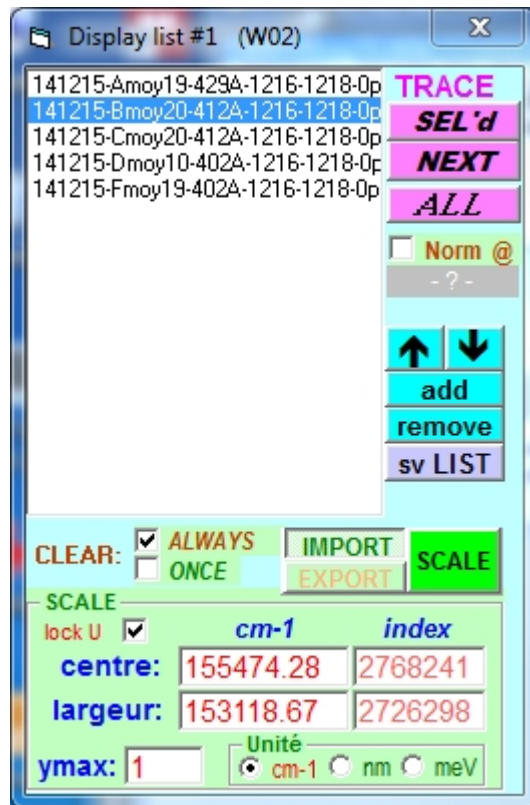
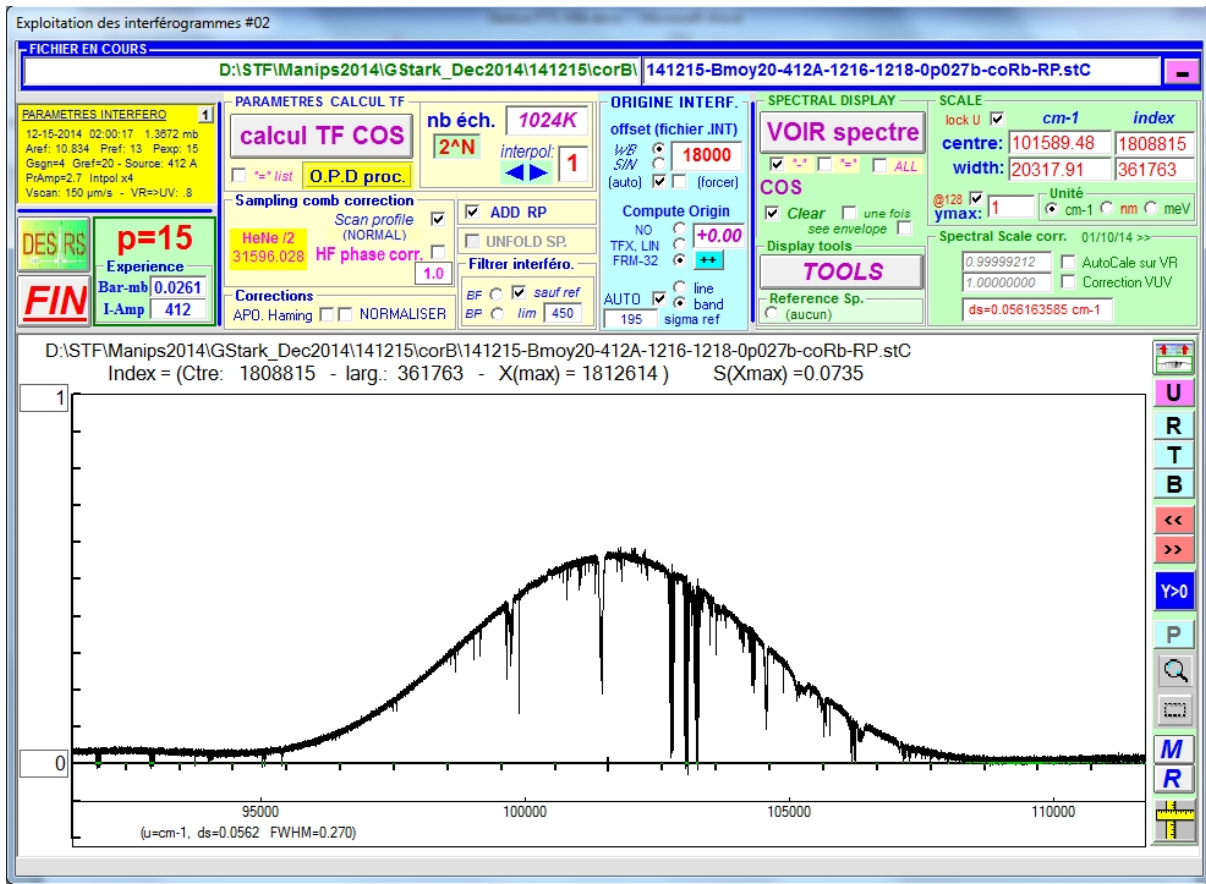
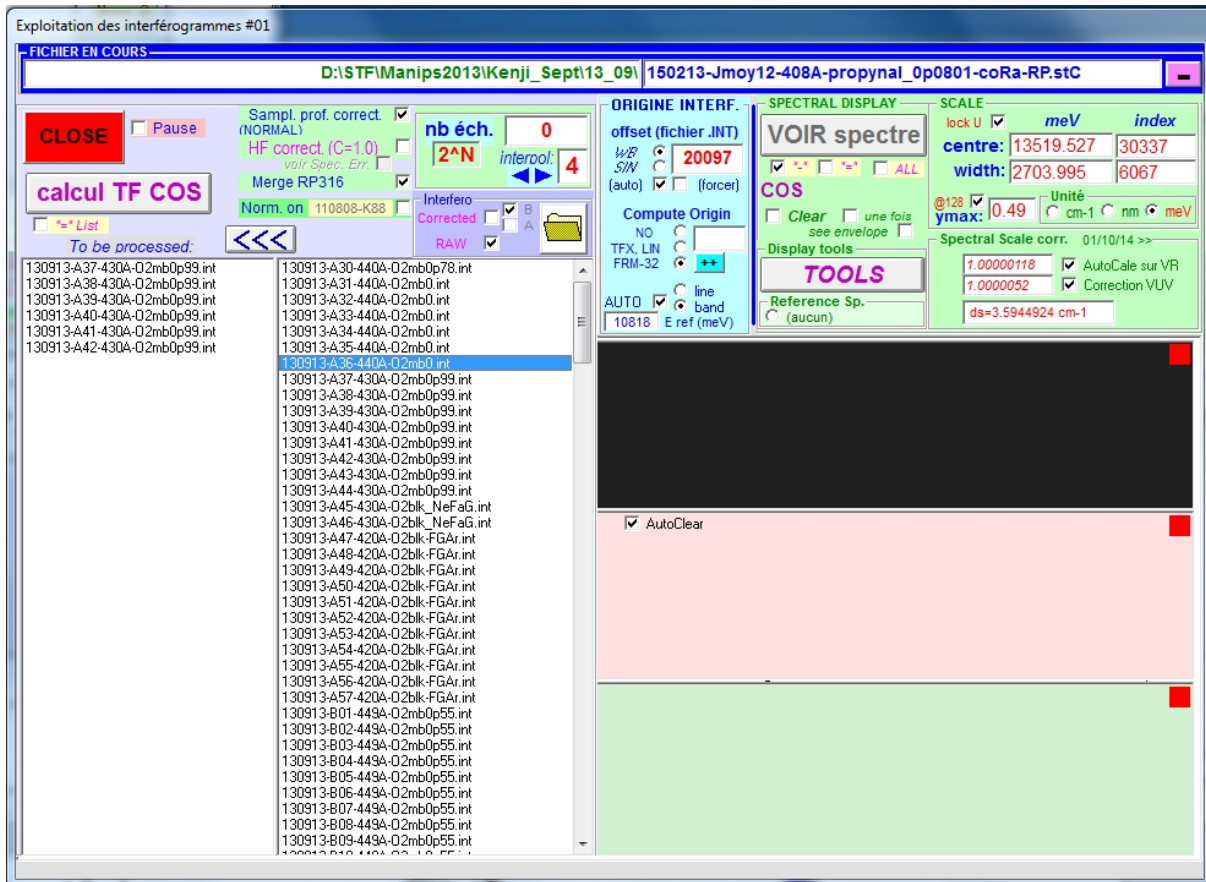

FIG.6
FIG.7
FIG.8
Note that the computation/viewer software (SpectroEUV-v???.exe – shortcut) can be launched several times in parallel (figure 7). This is useful to keep displayed one or several particular spectra on the screen, while computing others.
- a. CTRL+Right with the mouse pointer in the “**Calcul TF Cos**” button (figure 7). A new window appears with two separated columns. Open the folder where the interferograms are localized. All the “**.int**” files will appear in the right column. Select the ones that you need to compute and click the transfer button. The files are transferred to the left column (figure 8).
You can display any computed spectrum by a right click on the “**VOIR spectre**” button (figure 7). Just select the averaged spectrum you have just computed to display it. If you select more than one spectrum, a new window will appear with a list of the selected spectra (figure 6), it is the easiest way to handle many spectra, many lists can be displayed, saved etc.... A lot of tools are present on the tool bar (right side of the spectrum window. The main ones are: